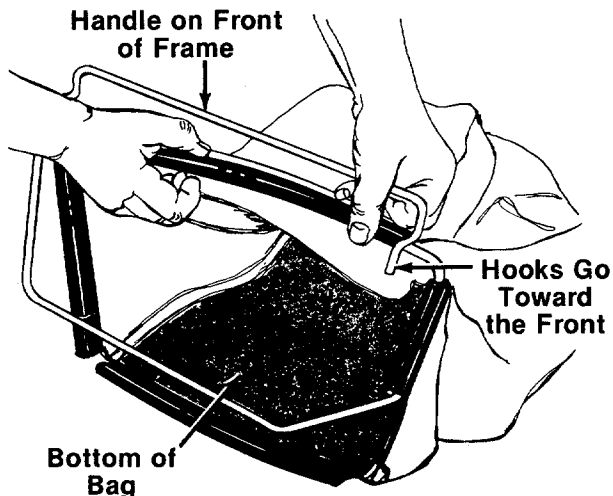

FIGURE 17.
1. Place bag over frame (black plastic side is the bottom of bag). Handle on frame goes to the top of bag. Hooks go toward the front. See figure 17.
2. Secure bag to frame by slipping plastic channels on bag over frame. See figure 17.